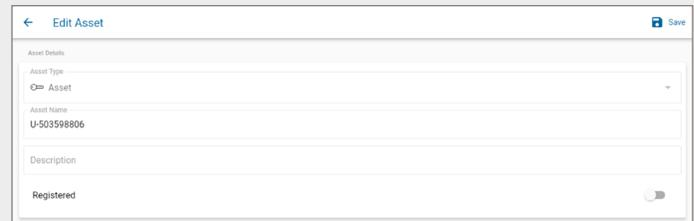

Fig. 54 – Edit Asset screen – Asset Details
11. Fill in the **Asset Details**, as shown in Fig. 54: